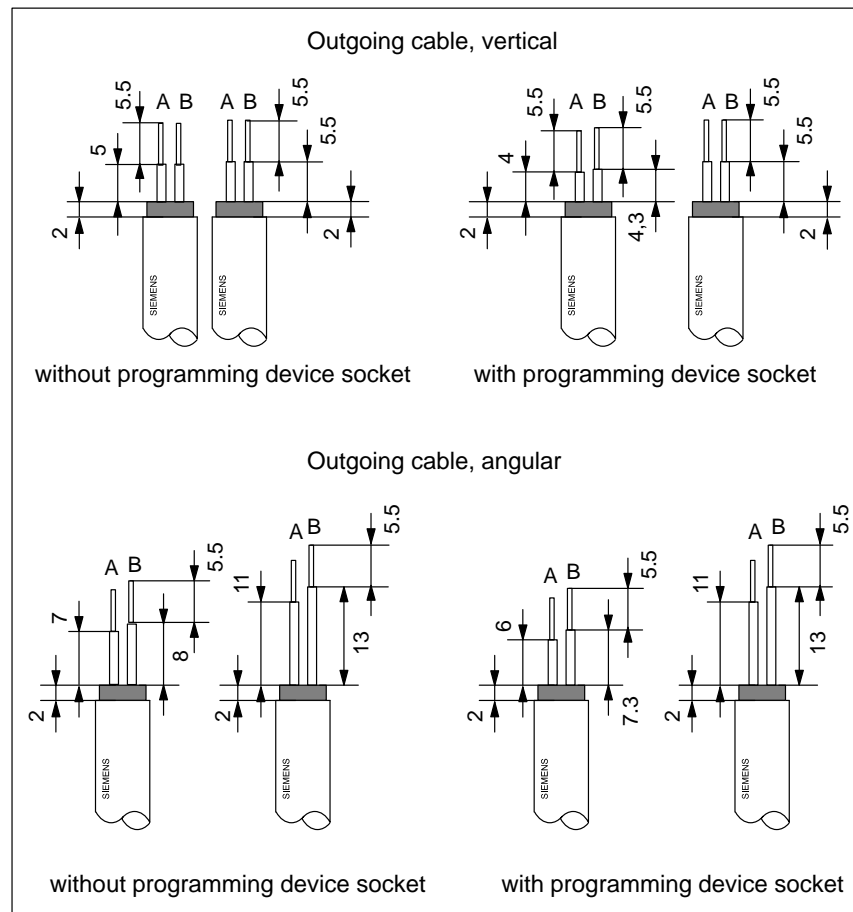

Figure 7-11 Length of Stripped Insulation for the Connection to the Bus Connector (6ES7 972-0B.20-0XA0)
1. Strip the bus cable as shown in Figure 7-11.